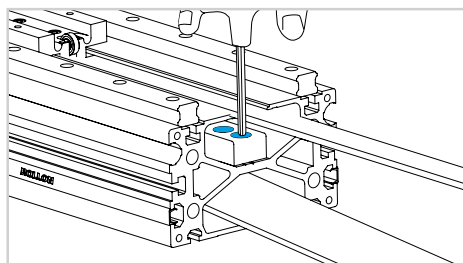

Fig. 13
- 14) Remove the safety block (Fig.13).
- 17) Remove the safety block on this side as well (Fig.13).